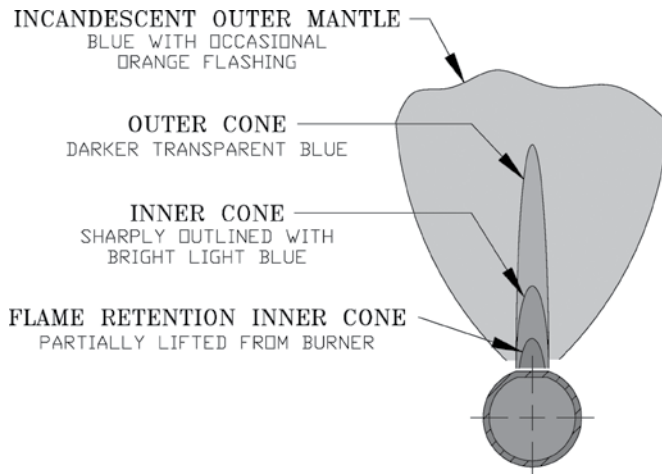

Figure 15: Main Burner Flame
- D. Check Main Burner Flame.** See Figure 15. Flame should have a clearly defined inner cone with no yellow tipping. Orange-yellow streaks caused by dust should not be confused with true yellow tipping.